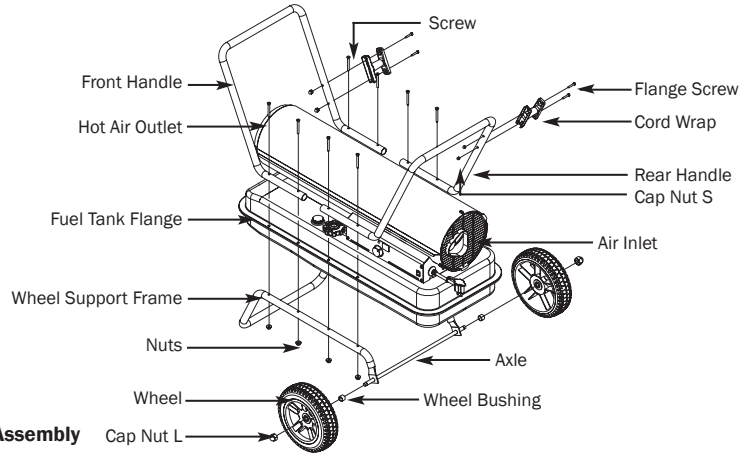

Figure 5 - Assembly
4. Place heater on wheel support frame. Make sure the air inlet end (rear) of heater is over wheels. Align the holes on fuel tank flange. Insert screws through handles (front and rear), fuel tank flange, and wheel support frame as shown in Figure 5 and attach nut finger tight after each screw is inserted.
7. Insert screws through cord wrap, handles as shown in Figure 5 and attach nut finger tight after each screw is inserted.